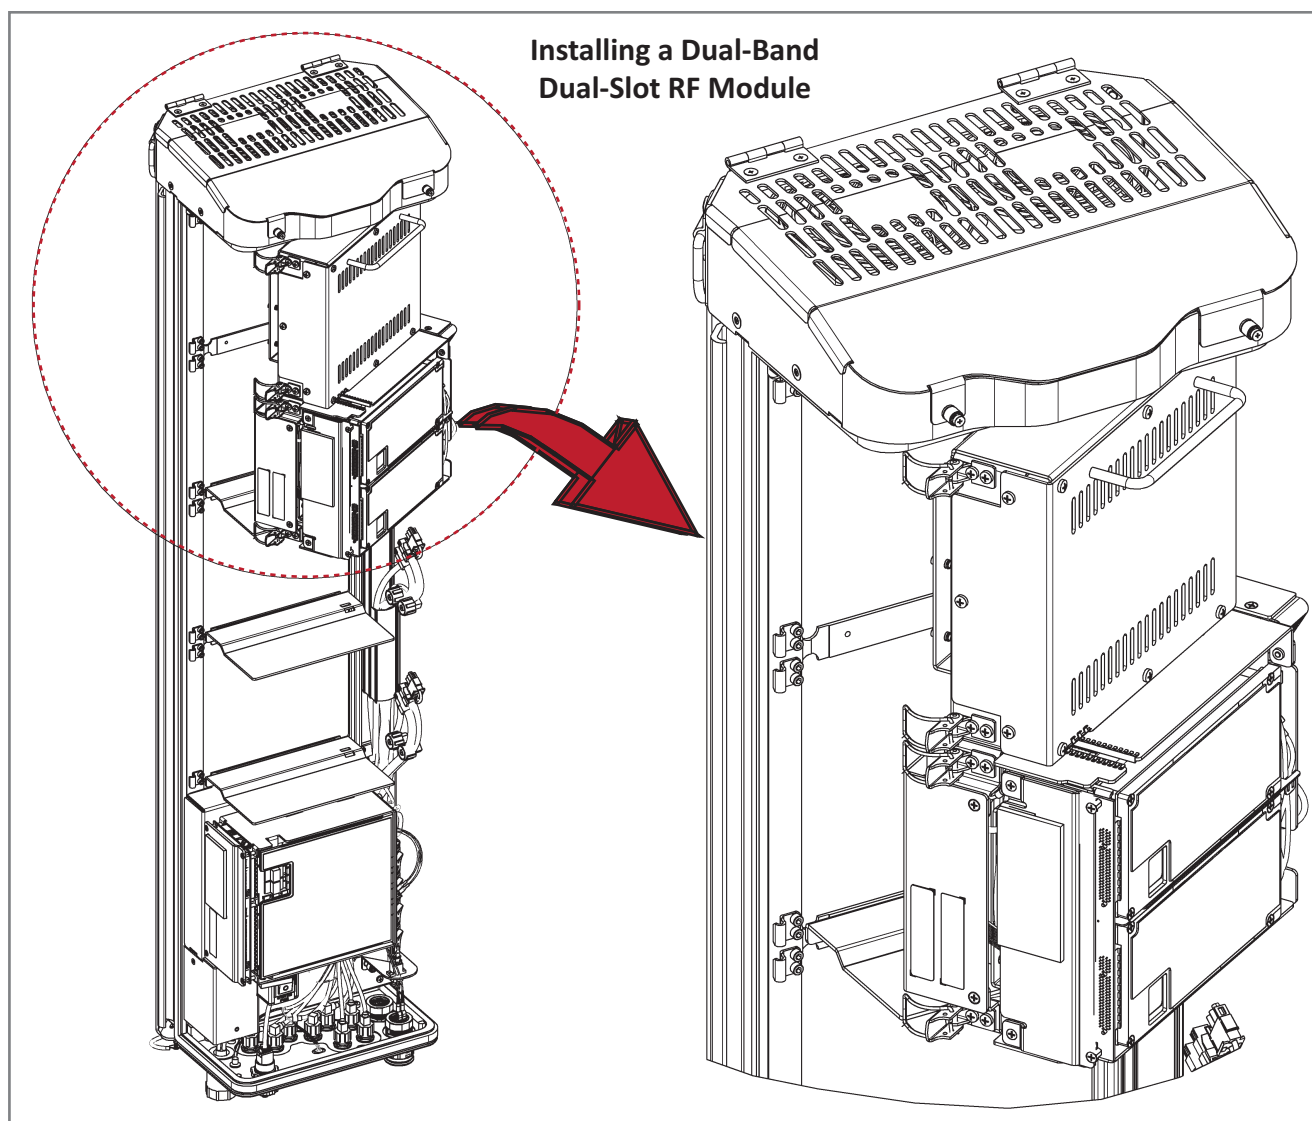

Figure 23. Installing a Dual-Bay RF Module
- Dual-Bay RF Module: Figure 23 on page 92